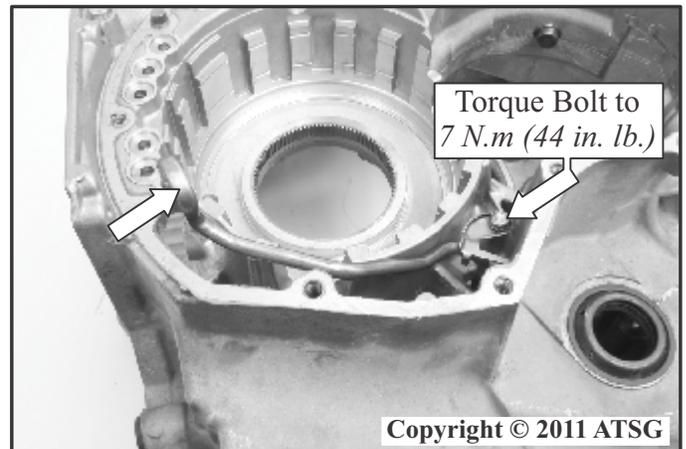

Figure 209
3. Carefully install the lube pipe into the transaxle case using a soft faced mallet and then install the lube pipe hold down bracket and hold down bracket retaining bolt as shown in Figure 209.
4. Torque the hold down bracket retaining bolt to 5 *N.m (44 in. lb.)* as shown in Figure 209.